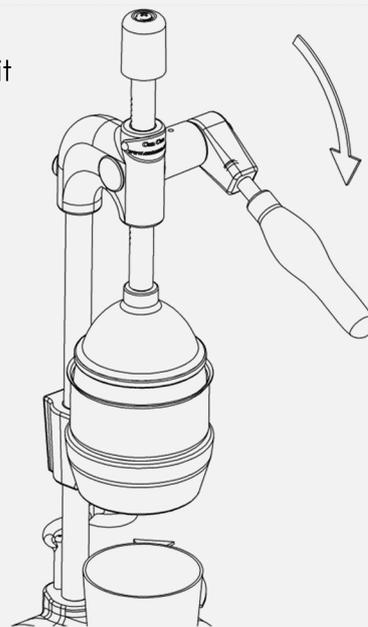

Figure 6
Your product's arm (11) Make a strict process by turning it toward you approximately 1.5 round. Tight post arm (11) in the opposite direction by turning the fruit pass filter (12) taken out (Figure 6).